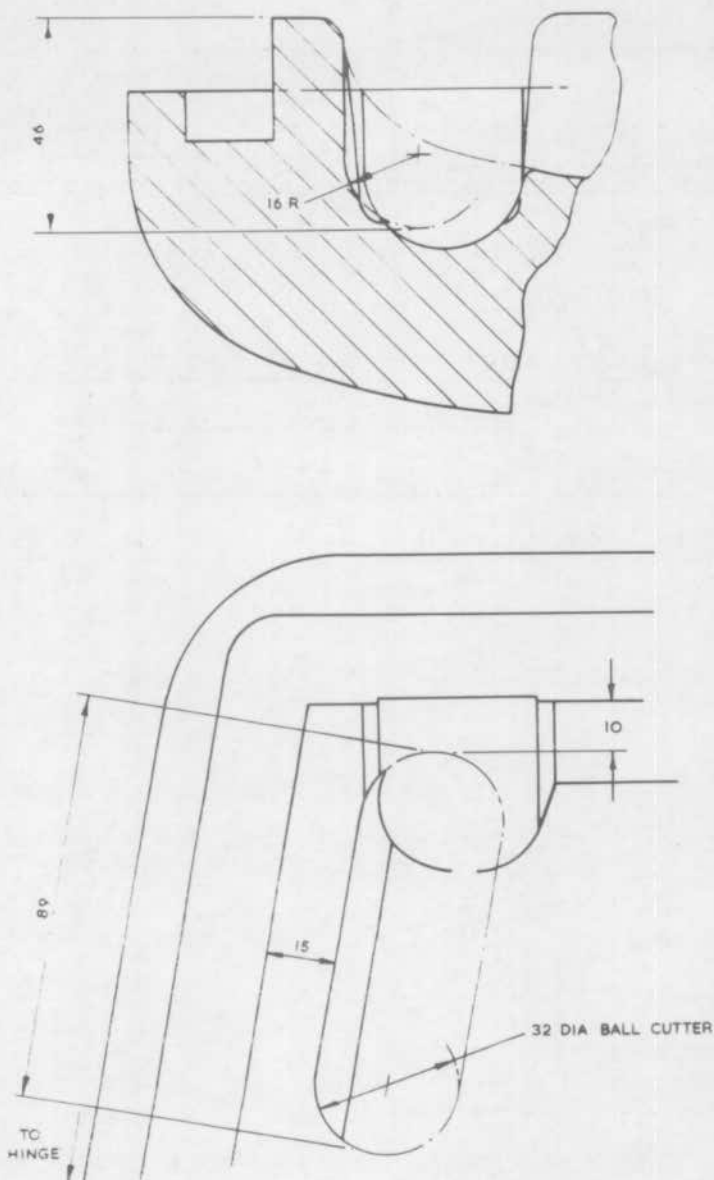

Fig 1. Modification to hatch
4. Remove hatch and machine as detailed in Fig 1.